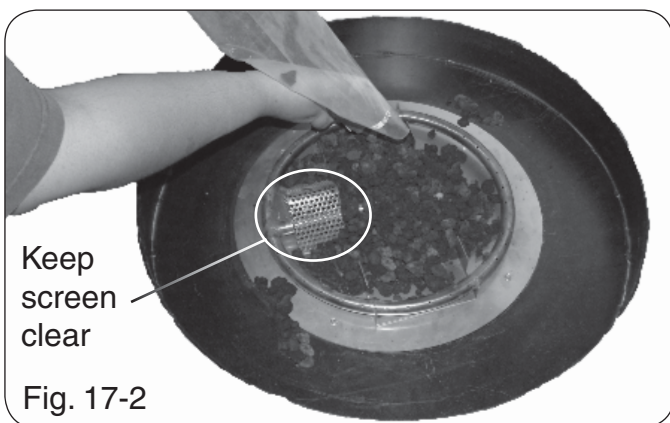

Fig. 17-2
1. Empty both bags of Lava Chunks into the burner pan (Parts List, Item #8) and even it out without covering or blocking the ignitor screen (see Fig. 17-2).